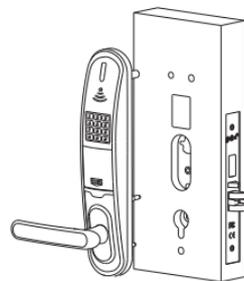

figure 2.4c
(2).Insert the big spindle of front panel into relevant hole of the mortise. The three screw columns must match the relevant hole on the door. (figure 2.4c)